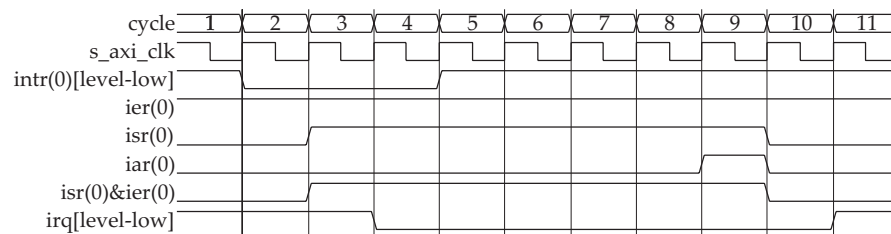

Figure 18: Input Intr - Level Sensitive (Active Low) and Output Irq - Level Sensitive (Active Low)
- Configured Input Interrupt (Intr) for Level sensitive (active Low) and Output Interrupt Request (Irq) to Level sensitive (active Low) and is shown in Figure 18.